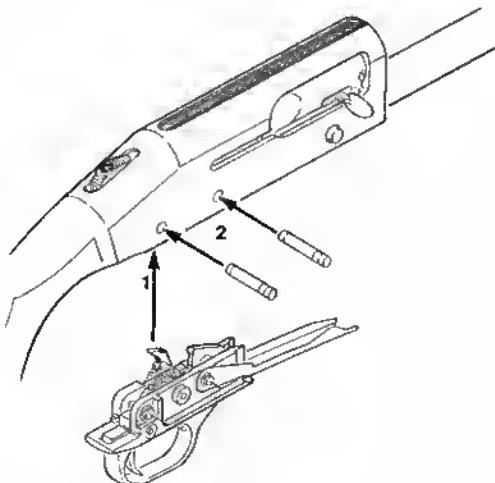

Figure 14
1. Insert the trigger housing assembly into the receiver and align the two trigger housing retaining pin holes (Figure 14).